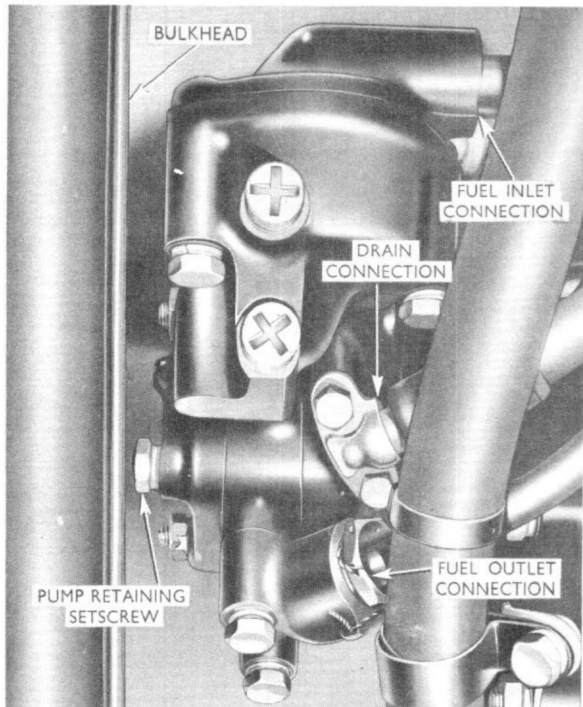

Fig. 4 Governor pump
20. Unscrew the setscrews securing the bulk head panel next to the pump (fig. 4) and remove the panel.